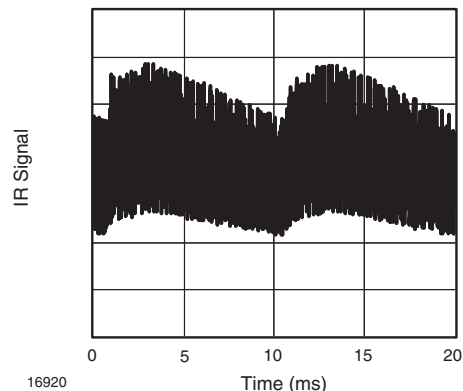
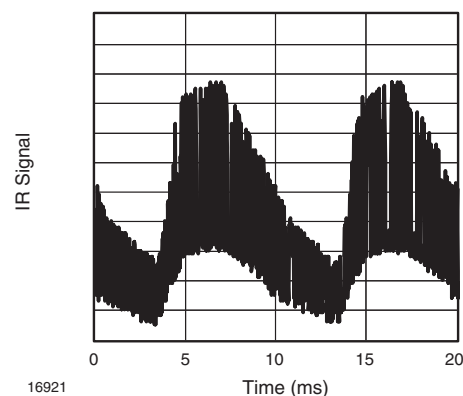

Fig. 14 - IR Disturbance from Fluorescent Lamp with Low Modulation
Fig. 15 - IR Disturbance from Fluorescent Lamp with High Modulation
- Strongly or weakly modulated pattern from fluorescent lamps with electronic ballasts (see Fig. 14 or Fig. 15)